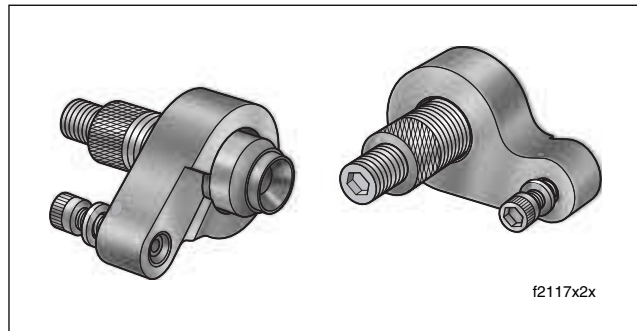

Figure 2-37. Vehicle Alignment Tool (Part No. HD-46247)
9. Obtain Vehicle Alignment Tool (HD-46247). See Figure 2-37. Proceed as follows: